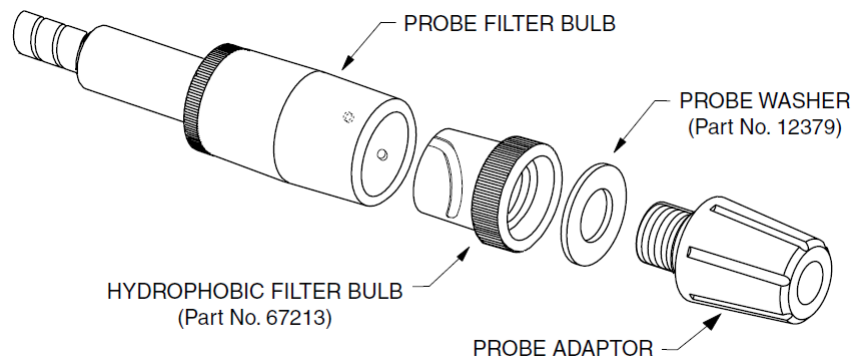

Figure 66: Hydrophobic Filter Bulb Removal
2. Unscrew the probe adaptor, as illustrated in Figure 66: Hydrophobic Filter Bulb Removal.